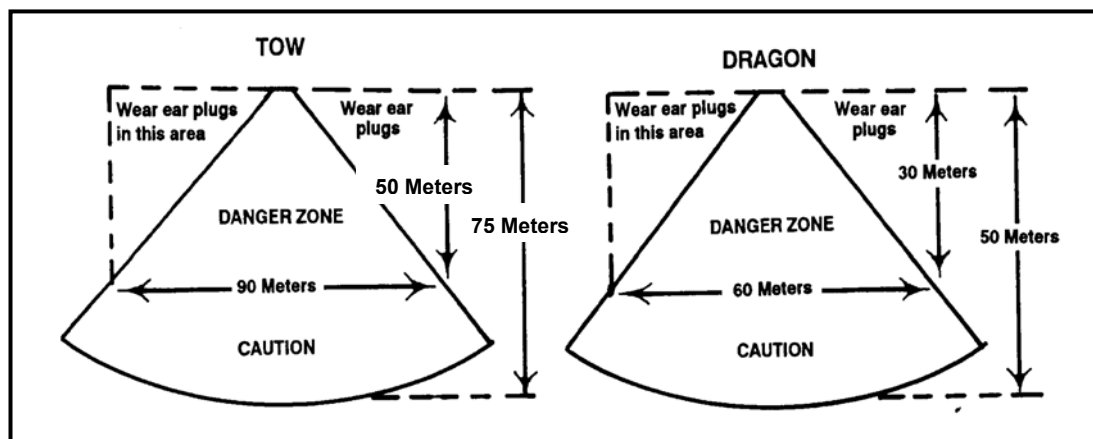

Figure 7-9. ATGM backblast in an open street.
(3) **Backblast.** Backblast for ATGMs is more of a concern during combat in urban areas than in open country. Any loose rubble in the caution zone could be picked up and thrown by the backblast. The channeling effect of walls and narrow streets is even more pronounced due to the greater backblast. If the ATGM backblast strikes a wall at an angle, it can pick up debris, or be deflected and cause injury to unprotected personnel (Figure 7-9). Both ATGMs can be fired from inside some buildings. In addition to the helmet and body armor, all personnel in the room should wear eye protection and earplugs.